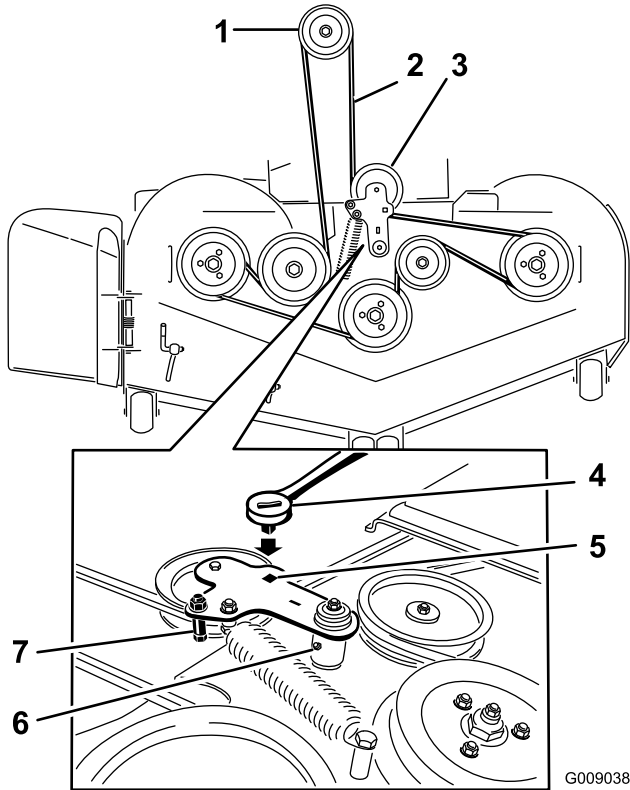

Figure 61
7. Use a ratchet in the square hole in the idler arm to remove tension on the idler spring (Figure 61).
9. Remove the belt guide on the spring loaded idler arm shown in Figure 61.
11. Install the new belt around the mower pulleys and the clutch pulley under the engine (Figure 61).
12. Install the belt guide on the idler arm shown in Figure 61.
13. Using the ratchet in the square hole, install the idler spring (Figure 61).